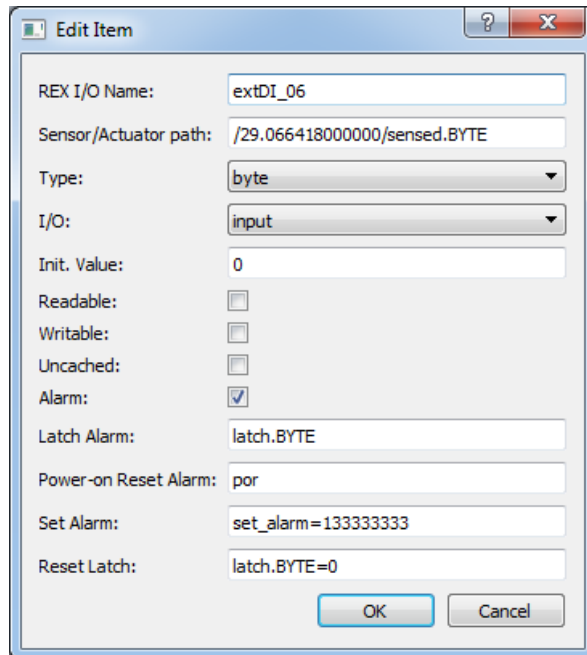

Figure 3.3: Example of configuration dialog for an alarm
Configuration of one alarm in the case of DS2408 circuit based 1-Wire device is shown in Fig. 3.3. The path to the signal (**Sensor/Actuator path**) is entered without starting directory **/alarm**. After selecting the **Alarm**, additional strings should be entered. The configured string values are preprocessed and stored to working string variables for each alarm (before start of the driver):
**ALARM\_SET\_WAIT** – Waiting for the completion of the writing started in the **ALARM\_SET** state. After that, all outputs are checked. When an output whose path starts with the **sPath** string is found, the initial value specified in the **Init. Value** item is written to the corresponding file (see fig. 3.3).